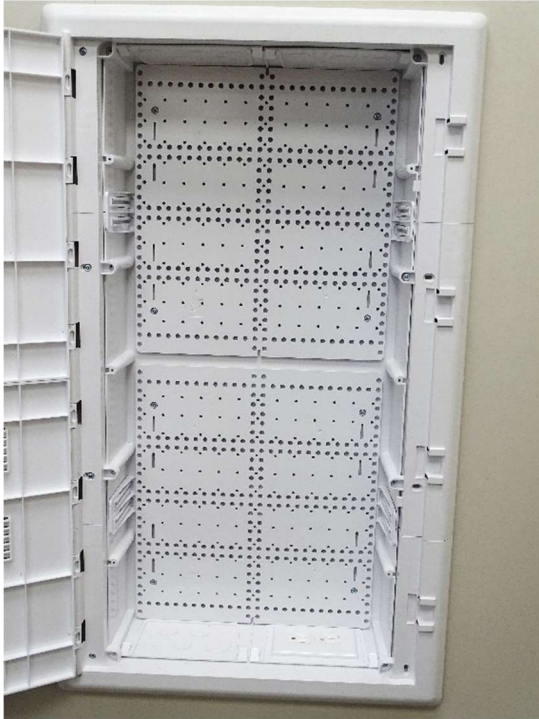

Figure 11
11. Insert two remaining pan head screws into the remaining middle side slots on the stud side. Once all screws are installed, but not fully tightened, shift cover as desired adjusting the reveal around the closed door as you go. Once cover is properly positioned with reveal consistent throughout, carefully tighten screws, being careful not to over tighten. (Figure 11)